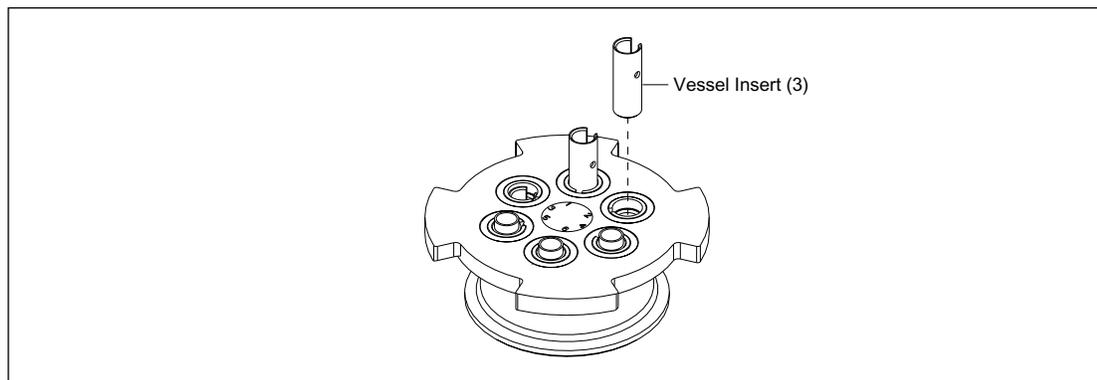

Figure 8-11. Anode Reservoir Holder.
1. Squeeze the vessel insert between thumb and forefinger and insert it into the reservoir holder (figure 8-11).